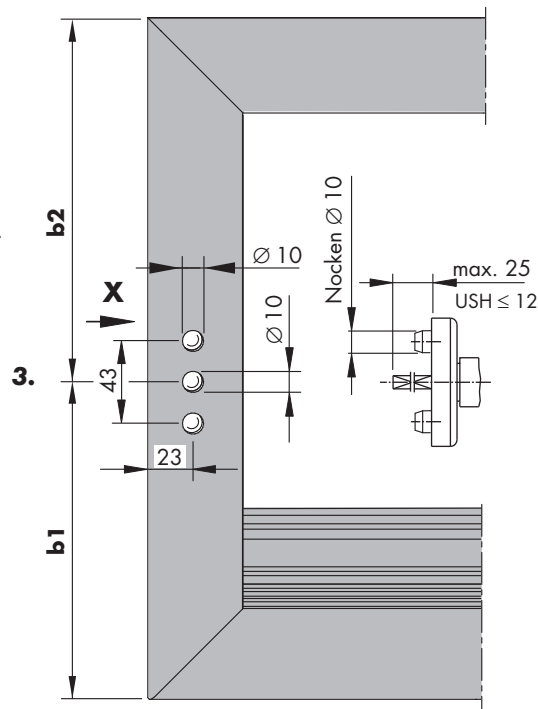

Fig. 1
1. Perform profile machining for window handle (item **1b**) (fig. 1+2).